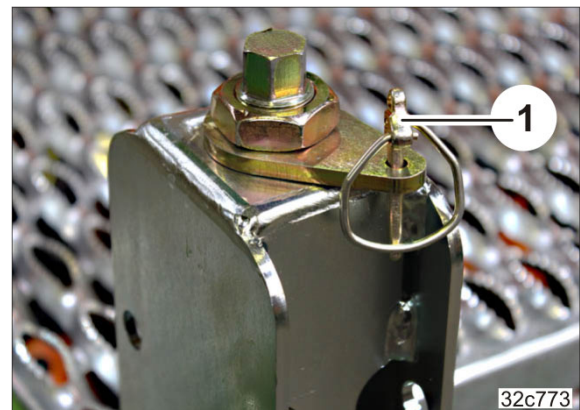

Fig. 185
4. Secure the adjustment by inserting a linch pin (Fig. 185/1).